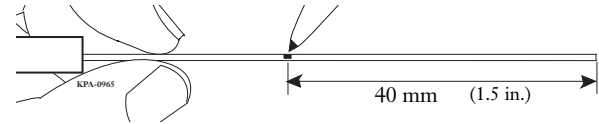

Figure 34 — Measure and Mark Coated Fiber
Step 2: Measure and mark 40 mm from the end of the 250 micron coated fiber (Figure 34).